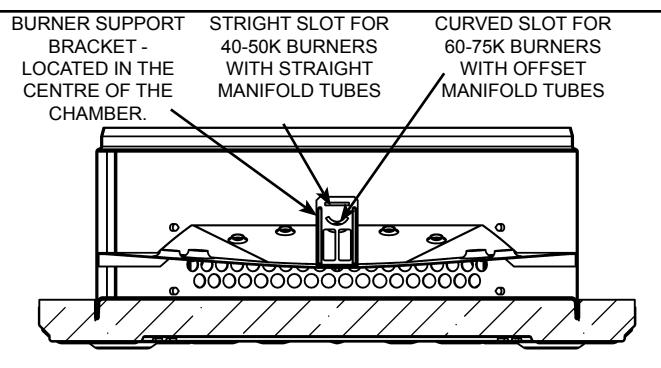

Figure 12
1. Insert the manifold/burner assembly in the burner chamber compartment, making sure that the tip of burner manifold tab engages in the proper slot of the bracket (see Figure 12). The tip end of the burner manifold MUST be placed in the slotted portion under the condensation pan to obtain proper installation (see Figure 12).